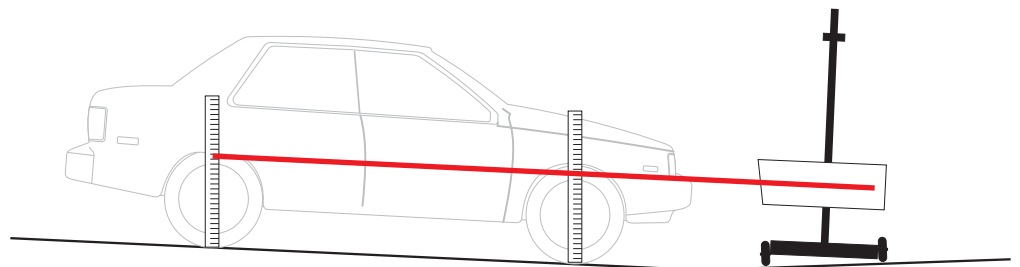
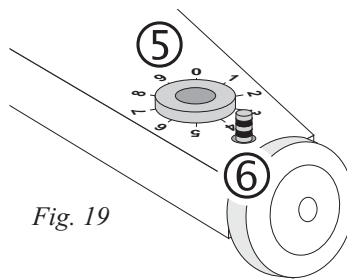

Fig. 16
Fig. 19
Position aimer at front of bay. Turn on laser by turning knob on laser housing. Measure center of laser beam height from floor at front wheel and at back wheel. The distance from the floor should be the same. If it is not, adjust floor slope knob until they are equal. See fig. 16 and fig. 19.
Near the floor slope adjustment knob ⑤, there is a register ⑥ consisting of a small cylinder that can be used to count the turns of the knob ⑤. This register sinks or raises with each turn of the knob (fig. 19).